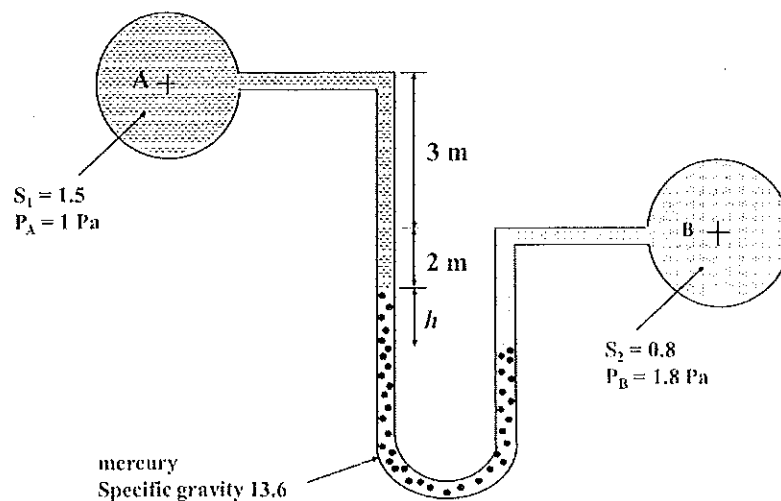

Figure Q1
1. A differential mercury (specific gravity of 13.6) manometer is connected to two points *A* and *B* of two pipes as shown in figure Q1. The pipe *A* contains a liquid of specific gravity (S_1) 1.5 while pipe *B* contains a liquid of specific gravity (S_2), 0.9. The pressures at *A* and *B* are 1 Pa and 1.8 Pa respectively. Find the difference in mercury level in the differential manometer.